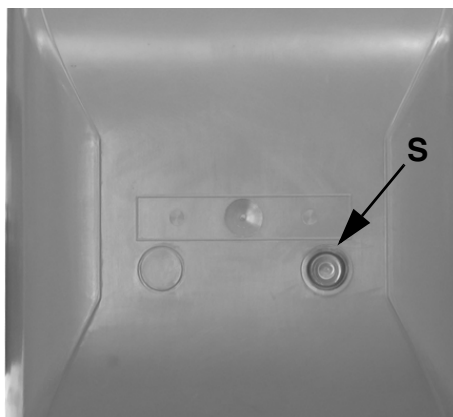

Fig. 37
- Make sure that the control box is not in shutdown condition and if so, release by using the release button **S** on the burner cover (see Fig. 37).
| S | Reset pushbutton (Fig. 37) |